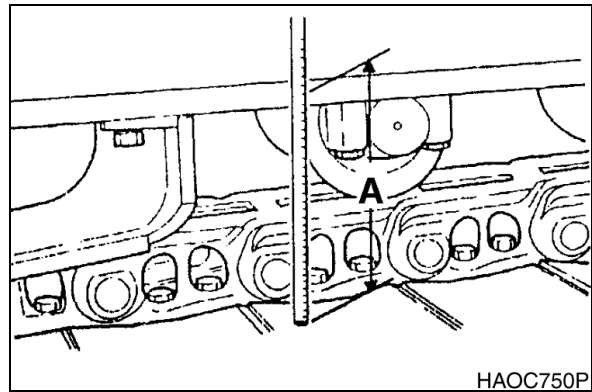

Figure 2
2. Measuring the distance (A, Figure 2) between the bottom of the side frame and the top of the lowest crawler shoe. Recommended tension for operation over most types of terrain is distance "B" on below table.